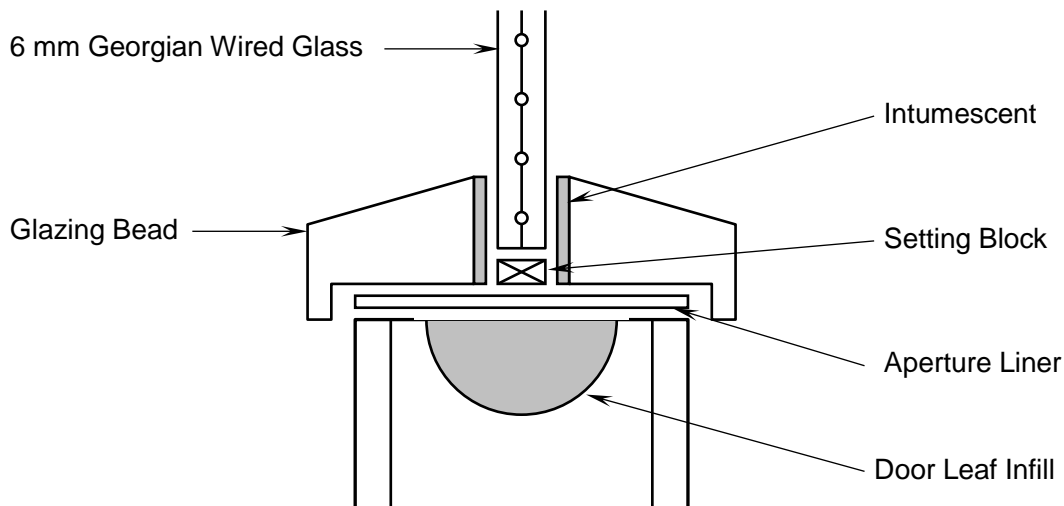

Figure 1. - Glazing Detail
6. This approval is applicable to latched, single-acting, single-leaf and latched/unlatched single-acting double-leaf, ITT assemblies with or without overpanels, at leaf dimensions up to those given in Table 1 and Figure 1.